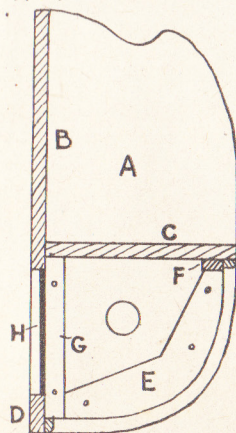
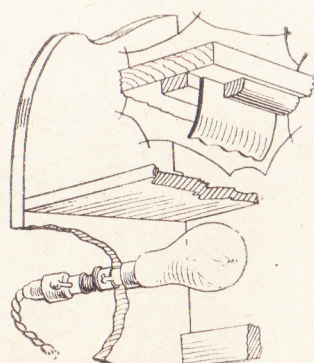

Fig. 2—End section
Fig. 6—Light fixing
Next prepare the lower rail (D). This will be 10 $\frac{1}{4}$ ins. long but only 1in. wide. The intervening space between this rail and rail (B) above is filled with a piece of spare thin plywood or ordinary $\frac{3}{4}$ in. wood, shown as (H) in Fig. 2. It should not be fitted and fixed until all the rest of the work is finished, as it really forms a removable panel for getting to the lamp inside. Otherwise once the curved front is fixed, this back panel will form the only means of access for the renewal of bulb or for repairs. Fix the rail (D) by driving screws through the ends into it the same as the shelf above.
To form a fixing for the top edge of the curved paper front of the lamp, a strip of small section wood as $\frac{3}{4}$ in. by $\frac{1}{4}$ in. must be fitted between the pieces (E) and glued to the underside of the shelf. The strip is seen as (F), in the section, Fig. 2, and again in the detail, Fig. 6. The latter diagram also shows how the paper is glued to the strip and held securely by a fixing bead nailed on underneath the shelf.
The front fixing bead, however, should greatly reinforce the fixing. In Fig. 6 we include a sectional view, showing how the electric bulb is installed. Assuming the panel (H) has not